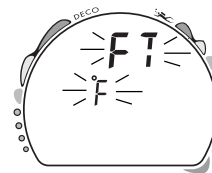

Fig. 22 - Set Units
- After having set and accepted FO2, the PC screen appears. To bypass PC, press the button until the Set Units screen appears with the Set Point flashing (Fig. 22).